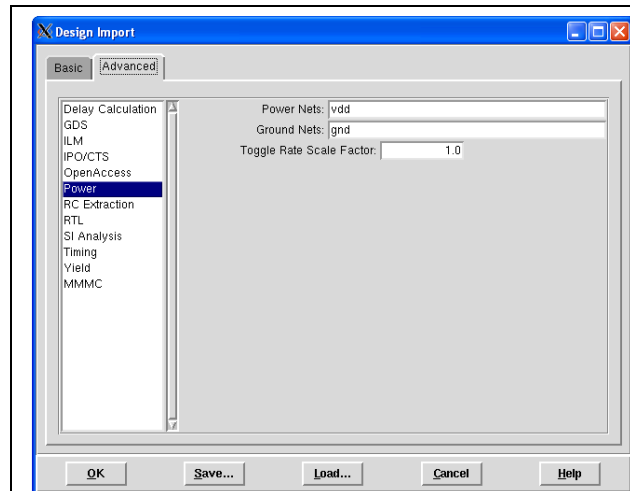

Fig 12: Set power nets in Design Import
- Click the **Advanced** tab of the “Design Import” window (Fig. 12). Select **Power** and set **Power Nets** to *vdd* and **Ground Nets** to *gnd*.